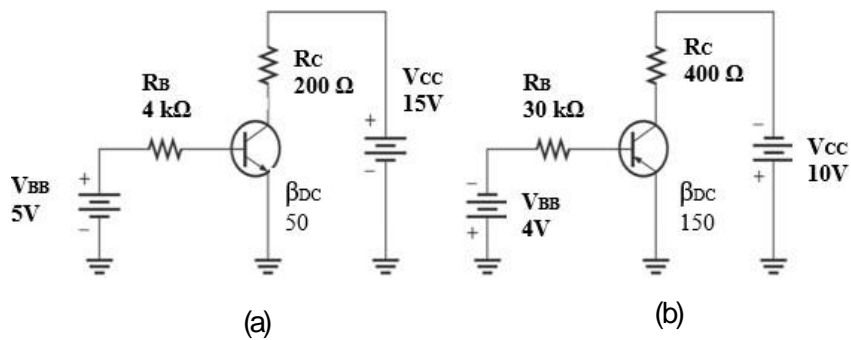

Figure 3.43
11. For both circuits in Figure 3.43 (a) and (b), determine: